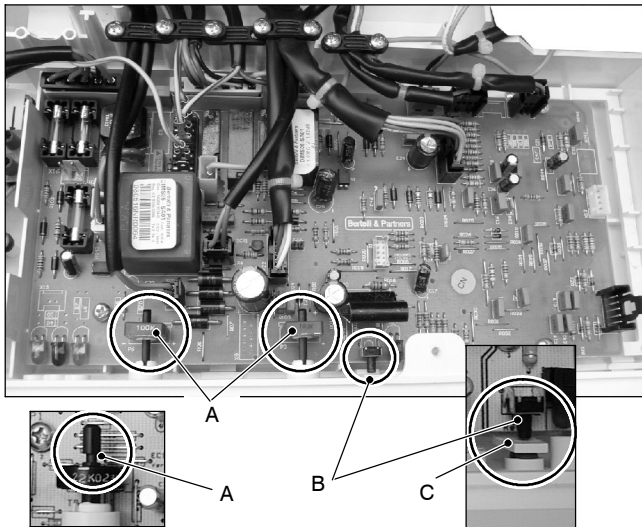

Fig. 9.13
- 9 Insert the spindles in the control panel knobs until the notch A (Fig. 9.13) reaches the potentiometer edge. It is not necessary to force them in the knob.
ing sure of the contact between the boiler reset button *B* and the tab *C* (Fig. 9.13).